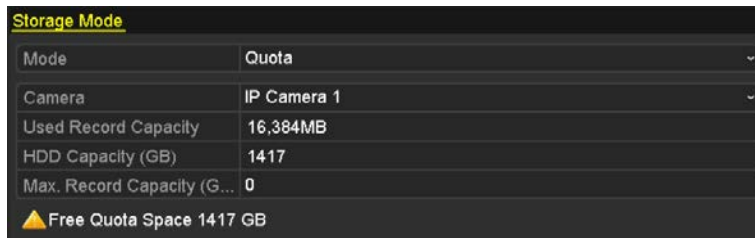

Figure 10-6 Storage Mode Settings Interface
2. Set **Mode** to Quota, as shown in Figure 10-6.